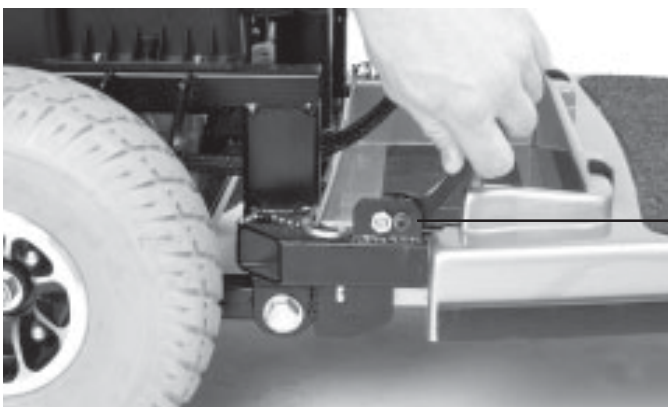

FIGURE 23. LOCKING CAM LEVERS
10. Push the locking levers forward and remove the ball detent pins. See figures 23 and 24.